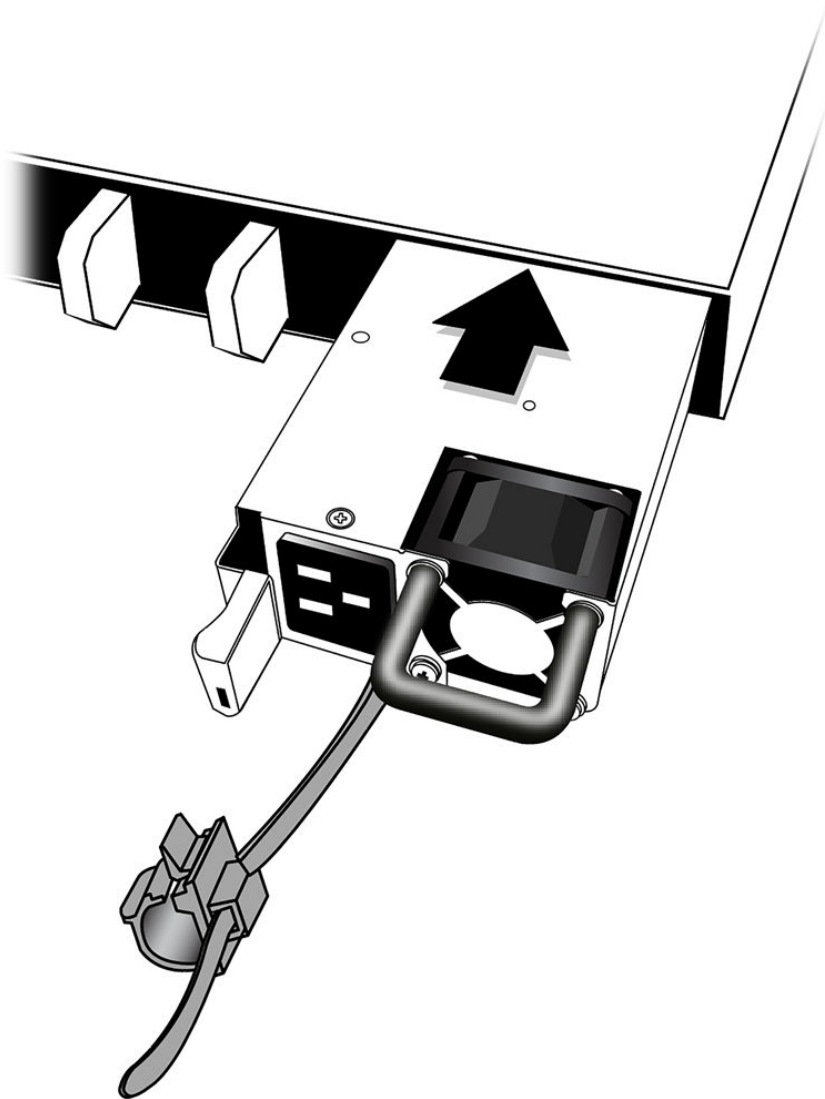

Figure 22: Installing a 750 W AC Power Supply
- Carefully slide the power supply all the way into the power supply bay (see Figure 22).